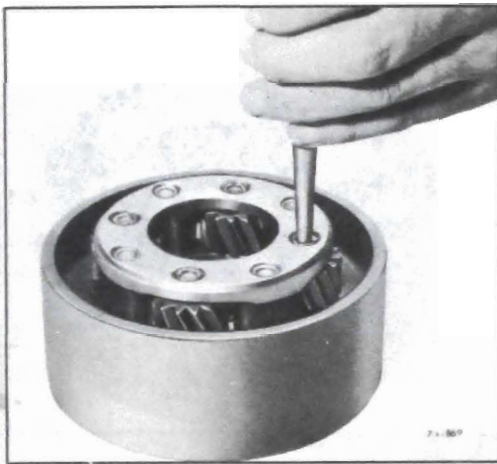

Figure 76-574
3. Using a tapered punch, drive or press the pinions out of the carrier. See Figure 76-574.